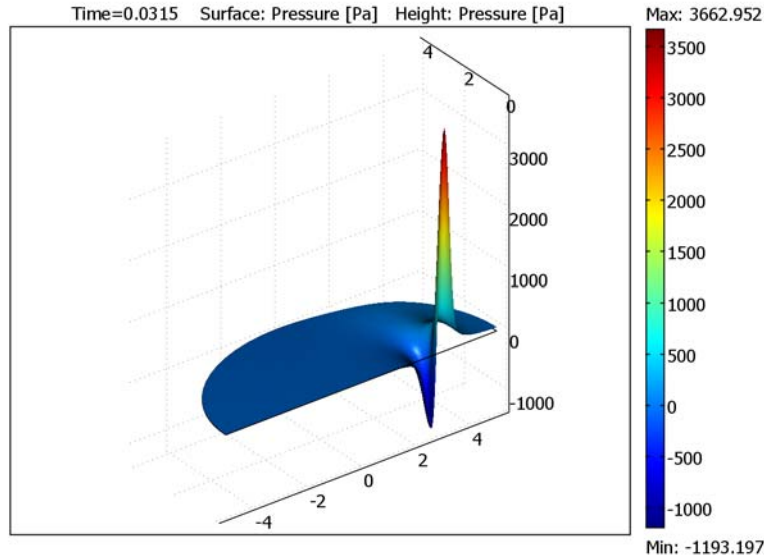

Figure 2-25: The refocusing occurs at roughly 0.0315 s. An animation gives a better feeling for the process.
- 2 To see the solution close to the refocusing moment, click the **Plot Parameters** button on the Main toolbar, select 0.0315 from the **Solution at time** list, then click **OK**. The result should look like that in Figure 2-25 on page 72.